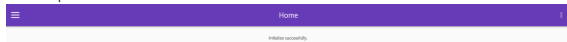

Figure 4 Initialization Successful Interface
- 4) Click **"Initialize"**. The initialization takes about 2 min. If initialize successfully is displayed (as shown in following figure 4, the device is connected successfully, and you can go to the next step